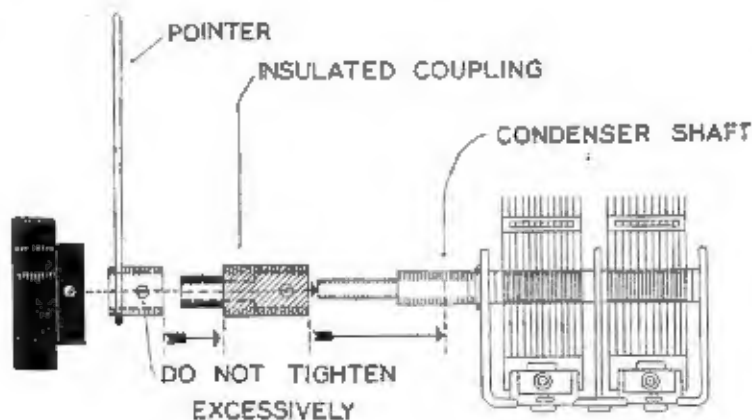

Fig. 8
- () 21. Place the chassis in normal position. As shown in Figure 8, assemble the transparent pointer to the insulated coupling. Tighten the set screw in the pointer with care so as not to deform the coupling. This would cause binding and interfere with smooth operation of the vernier drive. Slip the coupling and pointer over the condenser shaft. Shift the condenser insulator plate slightly as required to center the pointer bushing in the panel clearance hole. Then securely tighten the four 6-32 screws holding the condenser plate to the chassis.